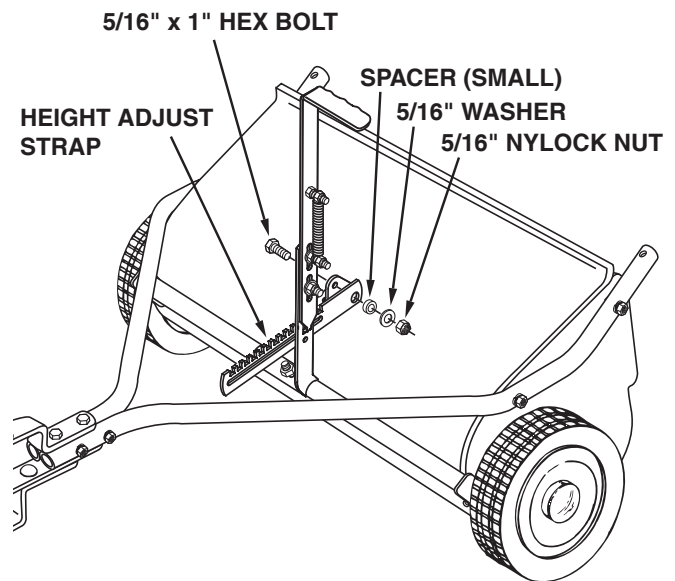

FIGURE 10
- Place the height adjust strap between the angle bracket and the height adjustment handle. Attach the height adjust strap to the angle bracket using a 5/16" x 1" hex bolt, the small spacer, a 5/16" washer and a 5/16" nylock nut. Tighten. See figure 10.